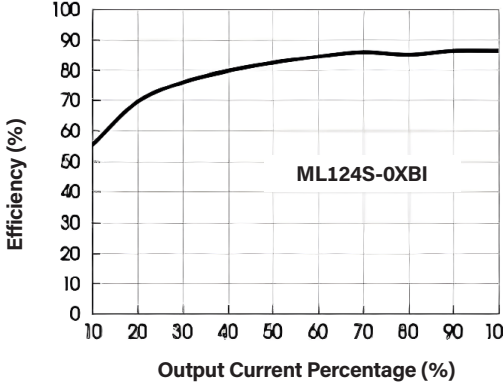

Fig. 9
8. For EMC typical recommended circuit, See Figure 9.